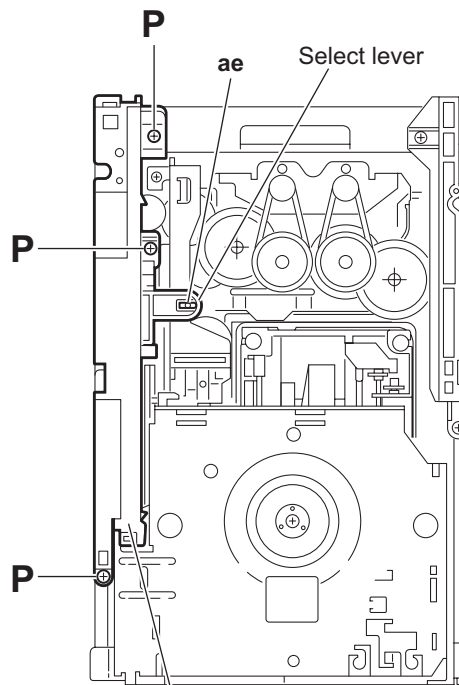

Fig.26
- (5) Remove the three screws **P** and detach the side (R) assembly upward. (See Figs.26 and 27.)
When reattaching the side (R) assembly, make sure to fit the shaft (part **ae**) into the slot of the select lever. (See Fig.26.)